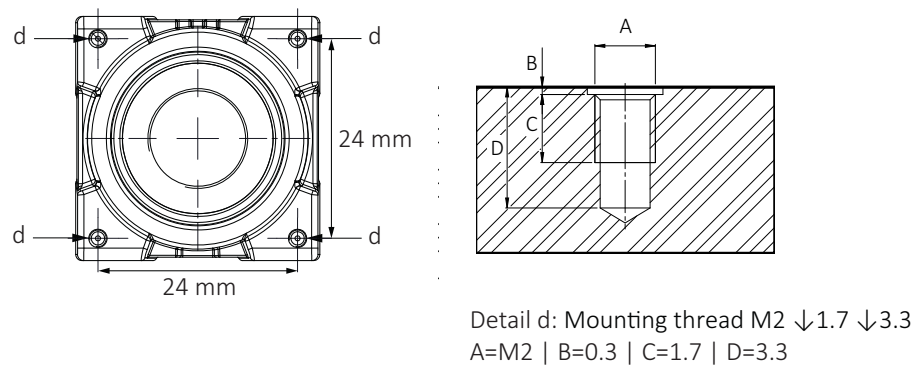

Figure 90: Camera front with mounting threads (d)
1. Mount the camera to the base using suitable M2 screws at 0.17 Nm maximum torque for a thread engagement (C) of 1.7 mm between screws and mounting threads, see Figure 90. For technical drawings, see Standard Alvium: Dimensions and mass on page 207.